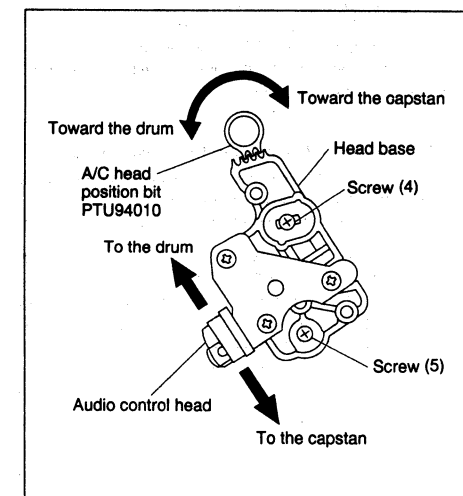

Fig. 2-3-6
- (1) Connect the oscilloscope to TP106(V. PB FM) of the main board assembly and to TP111(D.F.F) of the main board assembly for external sync connection.
- (2) Play the alignment tape MHPE and observe the FM waveforms.
- (3) Press the channel buttons (▲, ▼) simultaneously during playback to enter the manual tracking mode. (This also brings tracking to the centre.)
- (4) Loosen screws (4) and (5) so that the A/C head position bit (PTU94010) is set as indicated in Fig. 2-3-6.
- (5) Turn the A/C head position bit fully toward the capstan. Then turn it back gradually toward the drum and stop on the second peak point position of the FM waveform output level. Then tighten the screw (4) temporarily.
- (6) Then play the alignment tape MHPE-L.
- (7) Press the channel buttons (▲, ▼) simultaneously during playback to enter the manual tracking mode. (This also brings the tracking to the centre.)
- (8) Perform the tracking operation and make sure that the FM waveform is at its maximum.
- (9) If it is not at maximum, loosen the temporarily tightened screw (4) and turn the A/C head position bit to a position, around where the waveform reaches its maximum for the first time. Then tighten the screws (4) and (5).